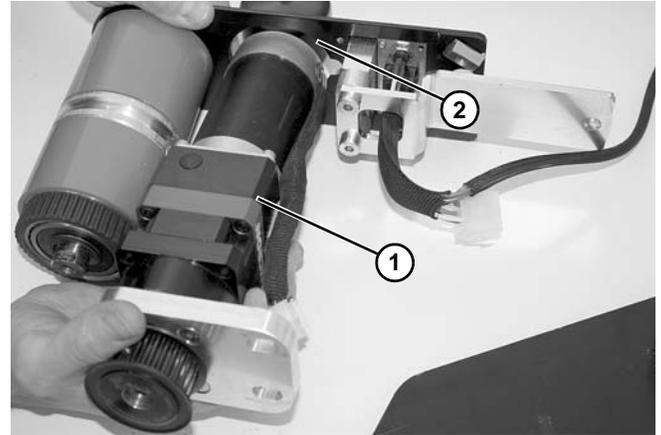

Figure 150
10. Slide drive motor (Figure 150, item 1) and remove from side plate (Figure 150, item 2).